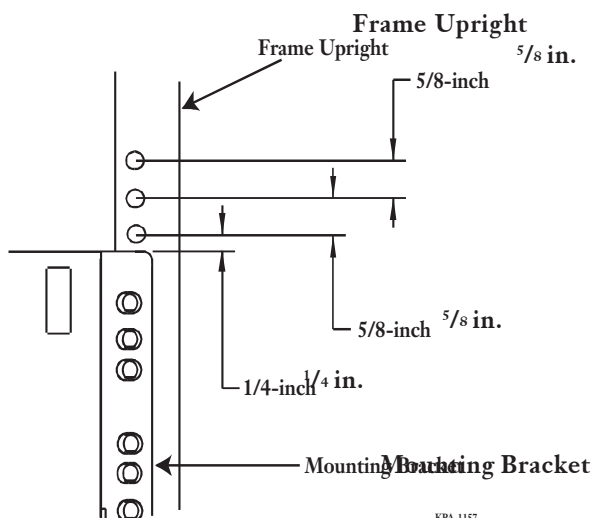

Figure 7
6.5 If you are using an EIA-310-D compliant equipment rack, align the mounting holes of the CCS unit so that the next hole above or below the housing is $\frac{1}{4}$ -inch away from the top or bottom surface of the housing (Figure 7). This will prevent misalignment of the lower mounting holes.